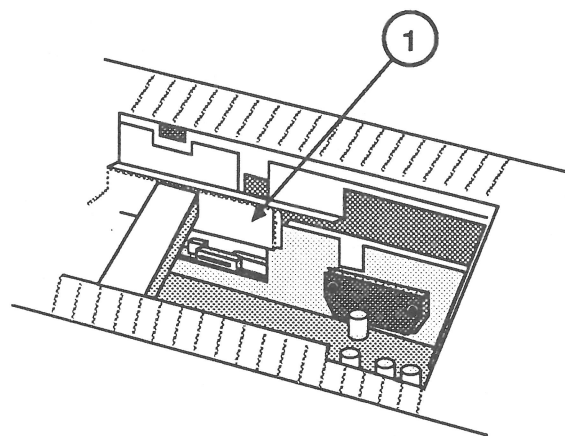

FIGURE 21
- b) The plastic divider in the option card compartment should be in front of the power supply heat sink (Figure 21, #1).